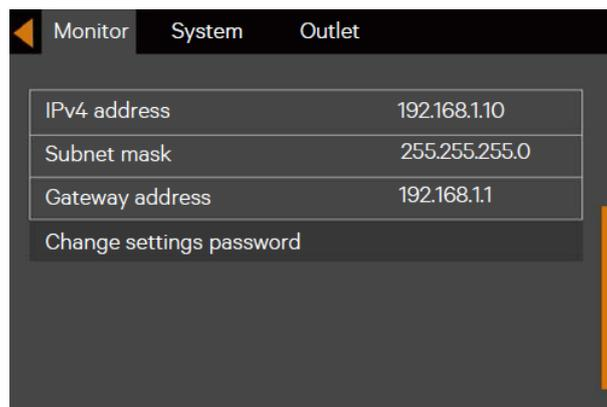

Figure 5-16 Changing setting password
4. Press the  key, move the cursor and press the  or  key to change the date and time you need. See Figure 5-16.